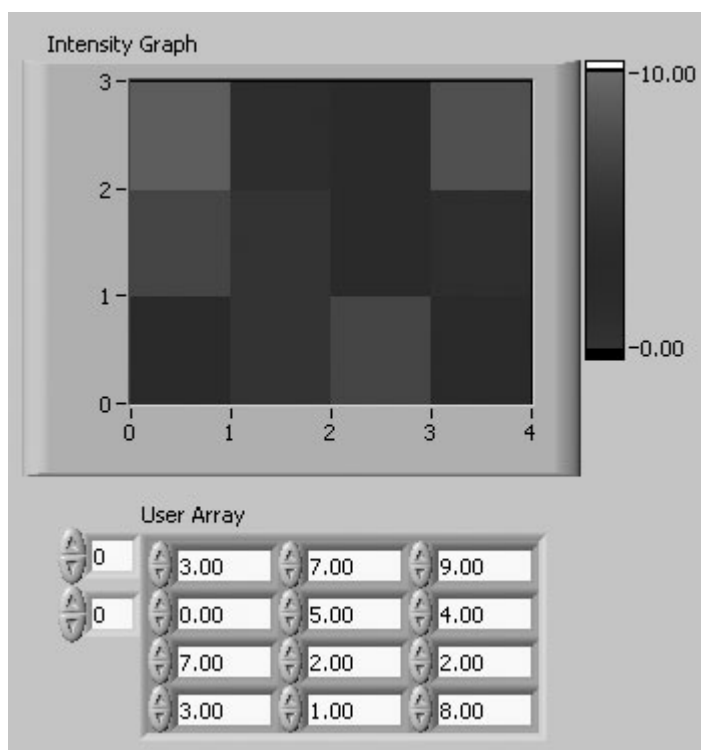

Figure 8.52
2. Switch the Display switch to Simple User Array and enter values between 0.0 and 10.0 in the User Array control (the color range for the graph has been defined in the block diagram using the intensity graph property node—blue (0.0) to red (10.0)). After you enter all the values, run the VI. Notice how the magnitude of each element is mapped to the graph. Now change your values and run it again (see Figure 8.52).